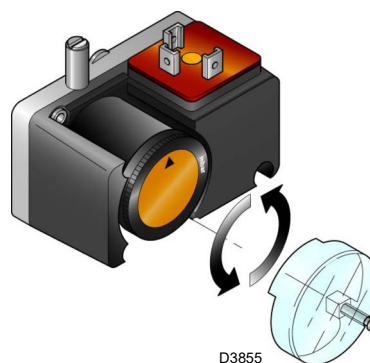

Fig. 31
- Adjust the minimum gas pressure switch (Fig. 31 at page 36) to the start of the scale.
Adjust the minimum gas pressure switch (Fig. 31) after having adjusted the burner, the gas valves and the gas train stabiliser.